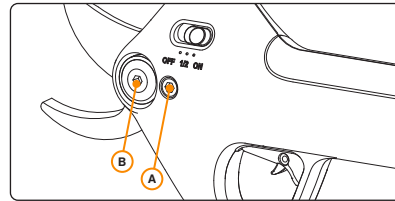

Figure 7. Removing the gear cover.
2. **Remove gear cover.** Unscrew (2) 4 mm Allen screws as seen in Figure 7